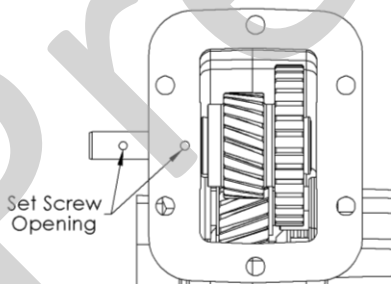
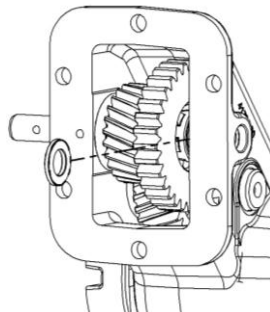

Figure 9 – Input Shaft & Input Gear Installation
Figure 10 – Bearing Spacer Installation
18. Place lubricated o-ring's (26) into each of the grooves located on each side of the PTO housing (23).
19. Place the input gear (32) and tapered roller bearings (30) into the PTO housing and begin to tap in the input shaft (31) at the set screw side of the PTO housing (23) so the input shaft (31) will line up with the set screw once in place. See figure 9.
20. Rotate the input gear 6 times to fully seat the tapered bearings. Continue to drive the input shaft (31) through the PTO housing until it is flush with the bearing in this assembly.
21. Insert the thickest bearing spacer (33) that can be installed by hand in the gap between the bearing and the housing. Remove the bearing spacer (33) and select the next thickest spacer and drive into the gap. Rotate the input gear (32) to make sure it properly rotates; the recommended bearing pre-load is .002" - .006" loose. See figure 10.
22. When proper pre-load has been established, continue to install the input shaft (31) and then secure using the set screw (27). Torque the set screw to 5 Ft. Lb.